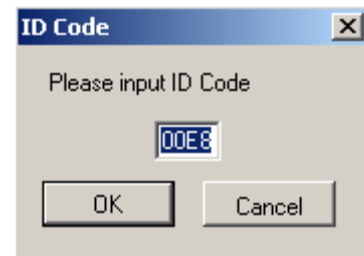

Figure 11: ID Code Window
- i.) Enter "00E8" for ID code and click <OK> (Figure 11).